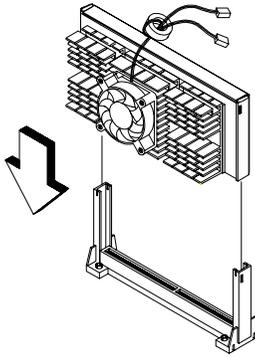

Figure 2-10 Installing a Pentium II Processor
2. With the processor module edge connectors pointing downward, align the processor to the posts of the retention mechanism then lower it down. See Figure 2-10.